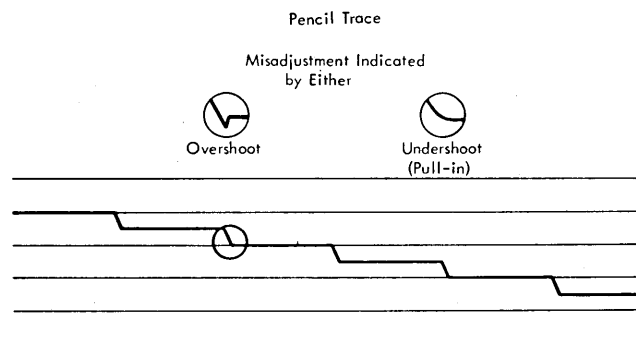

Figure 4-72. Single-Space Singleshot Adjustment
5. Draw line graphs on the paper while it is feeding or observe the scope trace (Figure 4-72).
6. Adjust the single-space singleshot to produce a square line graph on the paper or to show minimum stabilization time on the scope trace produced by the tach generator (Figure 4-72).
7. Set the manual clutch to the 8-lines-per-inch drive position and repeat the observations of the line graphs or scope traces. See the single-space singleshot-adjustment line graph and scope trace (Figure 4-72). Figure 4-77 shows the triple-space singleshot adjustment scope and pencil traces.